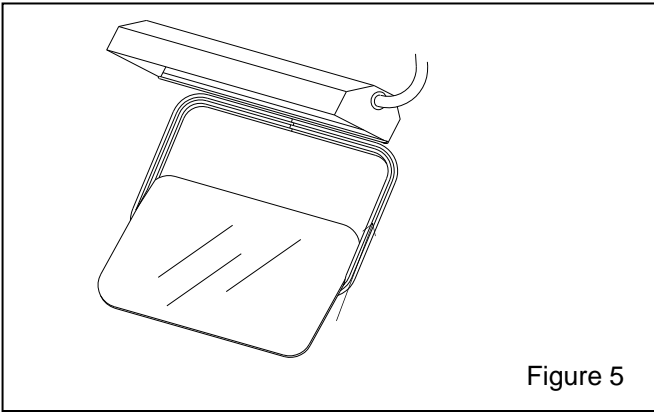

Figure 5
6. Spray silicone lubricant into the window channel (wide channel) on the molding, and slide the window into the channel, as shown in Figure 5. Place an arm into a glove to support the top edge of the bottom side of the window with one hand, while guiding the top edge into the molding with the other.